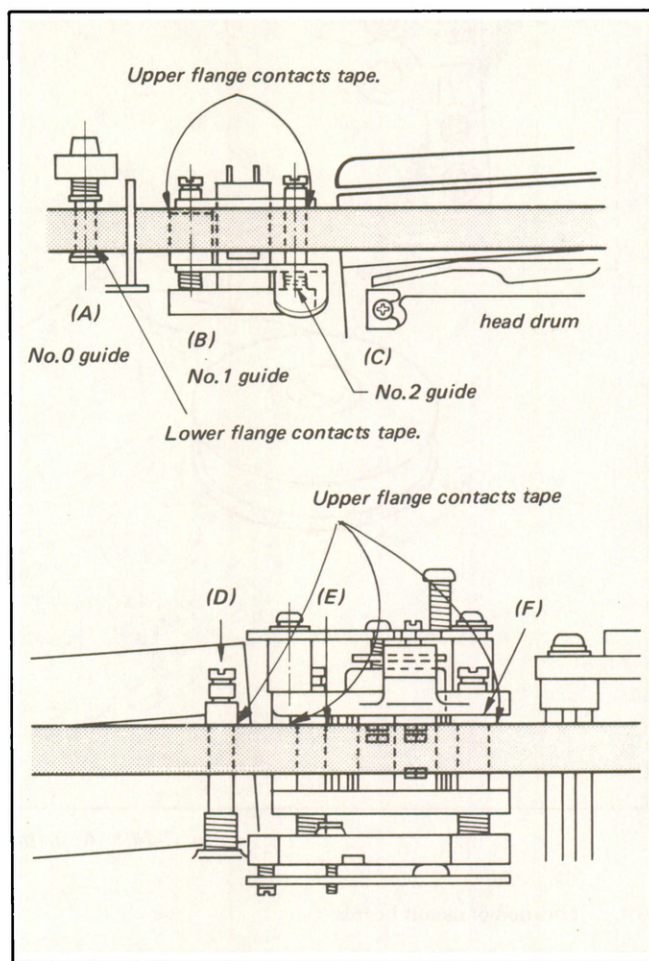
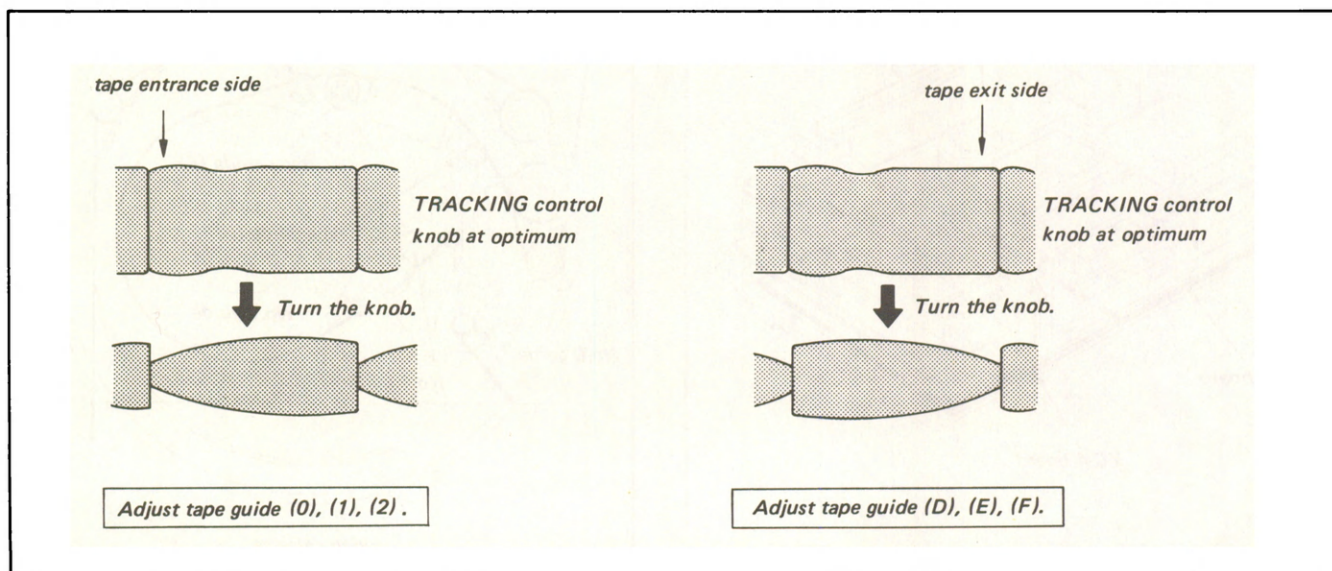

Fig. 3-49. Adjustment of tape path
Fig. 3-48. Adjustment of tape path
6. When the waveform at the tape entrance side is not flat as shown in Fig. 3-48) for the clockwise and counterclockwise turning of the TRACKING control knob from center, detent position, adjust the heights of tape guides (0), (1), and (2). When the waveform at the tape exit side is not flat, adjust the heights of tape guides (D), (E), and (F). The height adjustment must be performed so that the tape contacts the drum heads, there is no curl at the flange of each tape guide, the upper or lower flanges contact the tape as shown in Fig. 3-49, and the RF waveform is flat.
3. Raise the tape guide (D) shown in Fig. 3-49 by 0.5 mm. (Turn the nut one turn.)